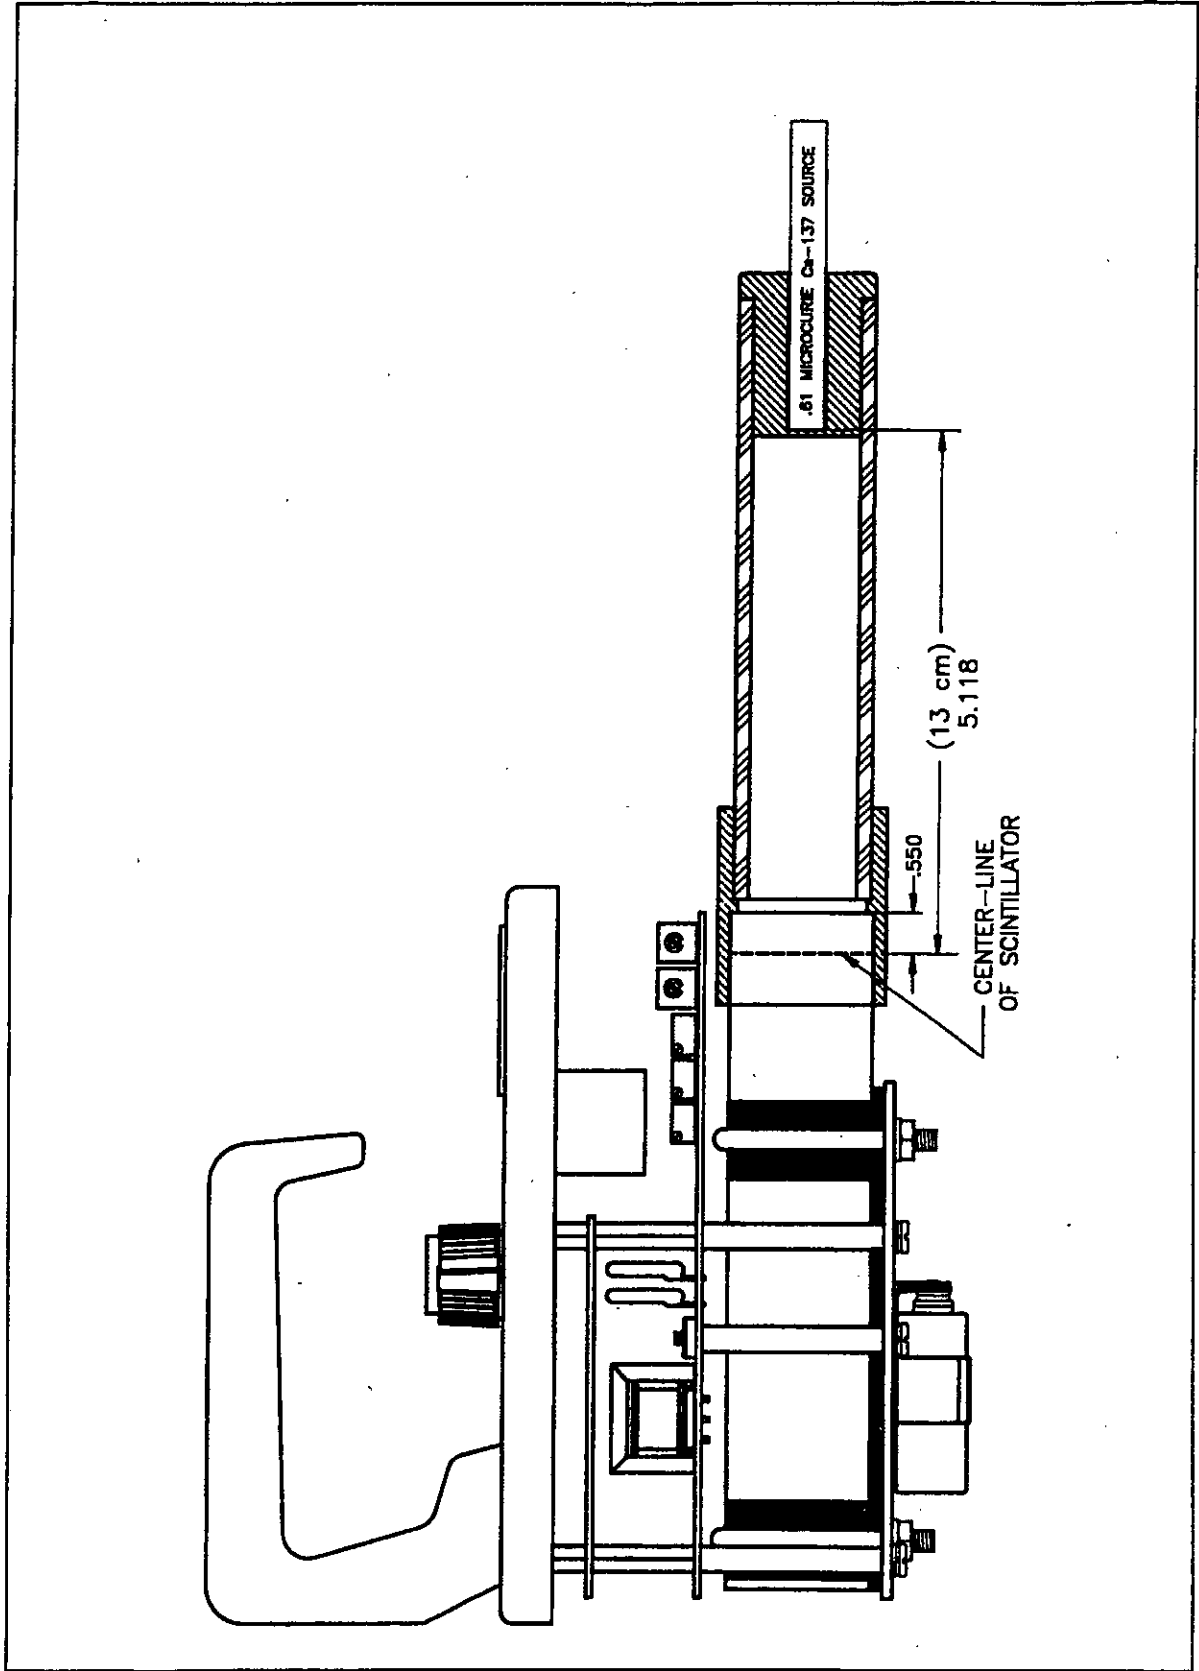
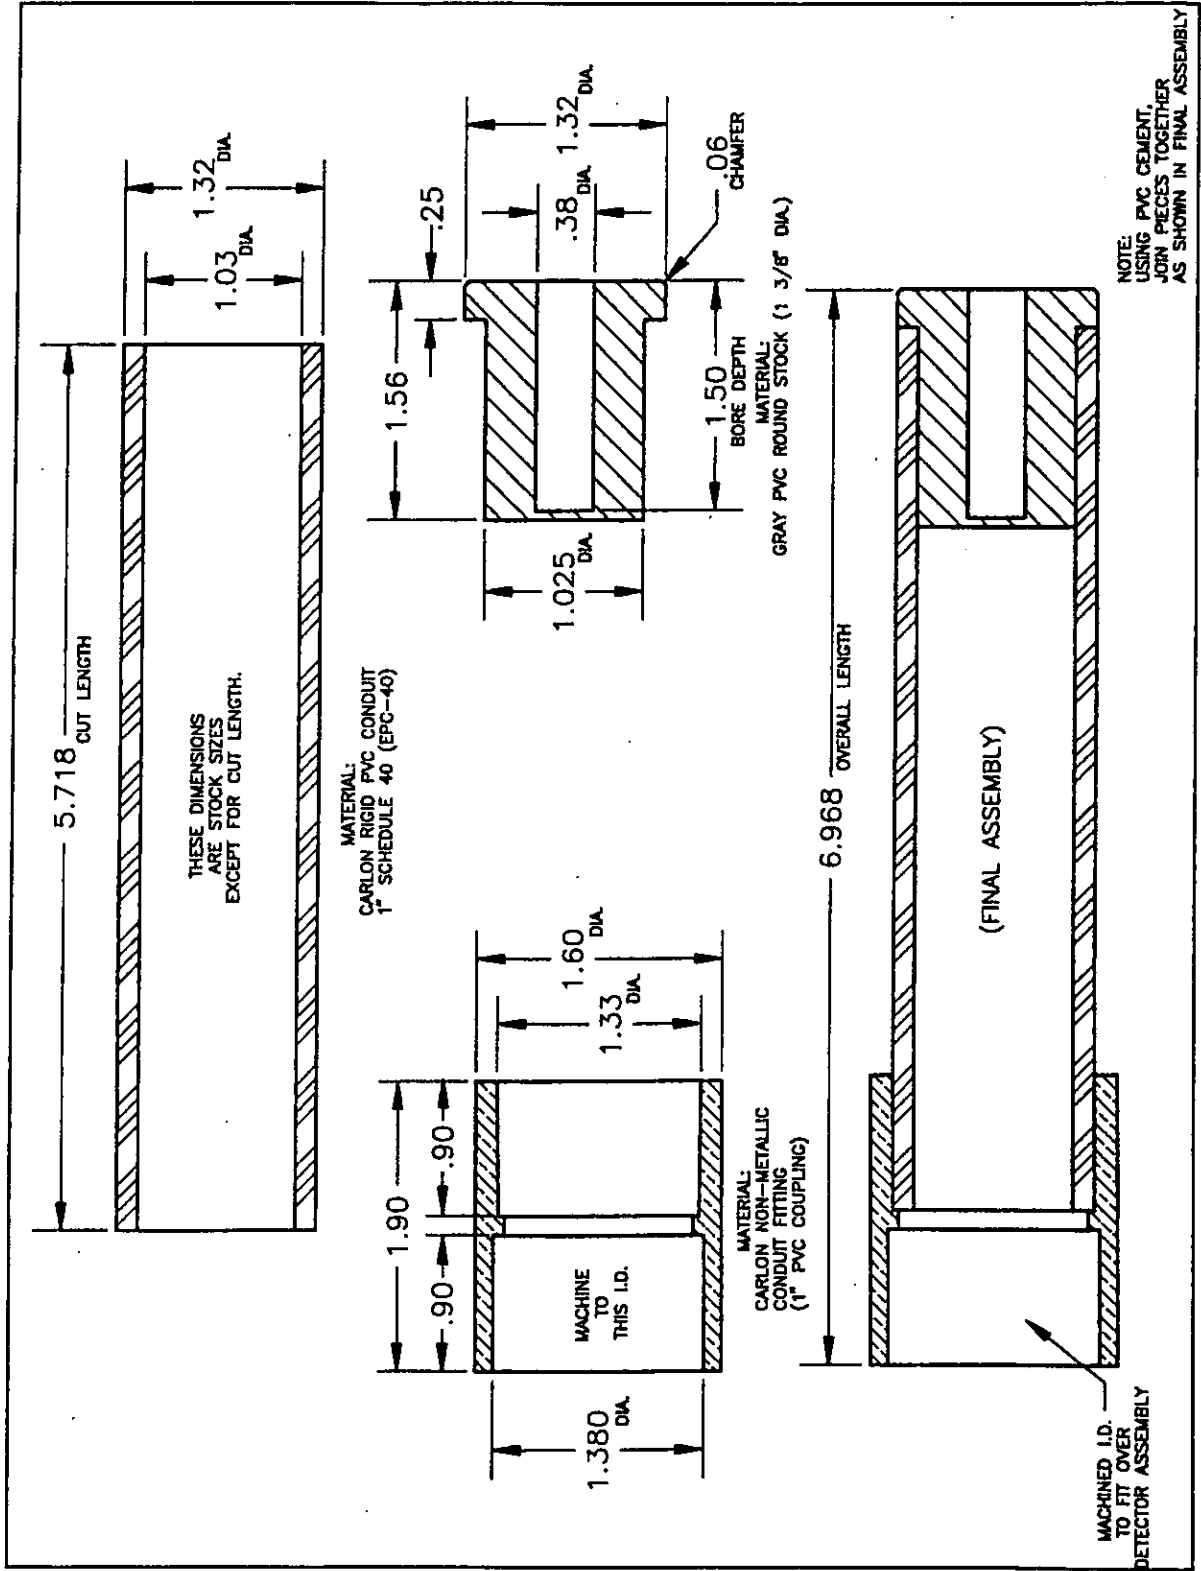

Figure 4
Figure 3
2. Turn the control switch to the X0.1 position. Place the instrument in a low background chamber constructed of lead bricks at least 4" thick. Place the check source fixture (Figure 3) on the end of the detector assembly (Figure 4). Put the entire assembly in the low background chamber.